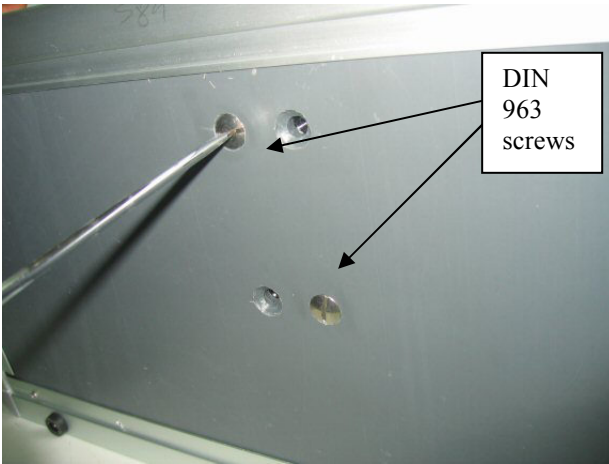

Fig. 7 – Bottom view
- 8) Unscrew the 2 DIN 963 screws 8x16 from the bottom of the structure (Fig. 7);